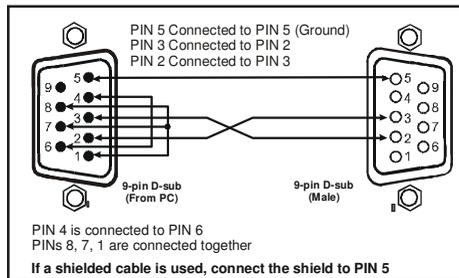

Figure 5: Connecting a PC without using a Null-modem Adapter
- Connect the RS-232 9-pin D-sub port on your PC to the RS-232 9-pin D-sub rear panel port on the **VS-44HDx1** unit, as Figure 5 illustrates